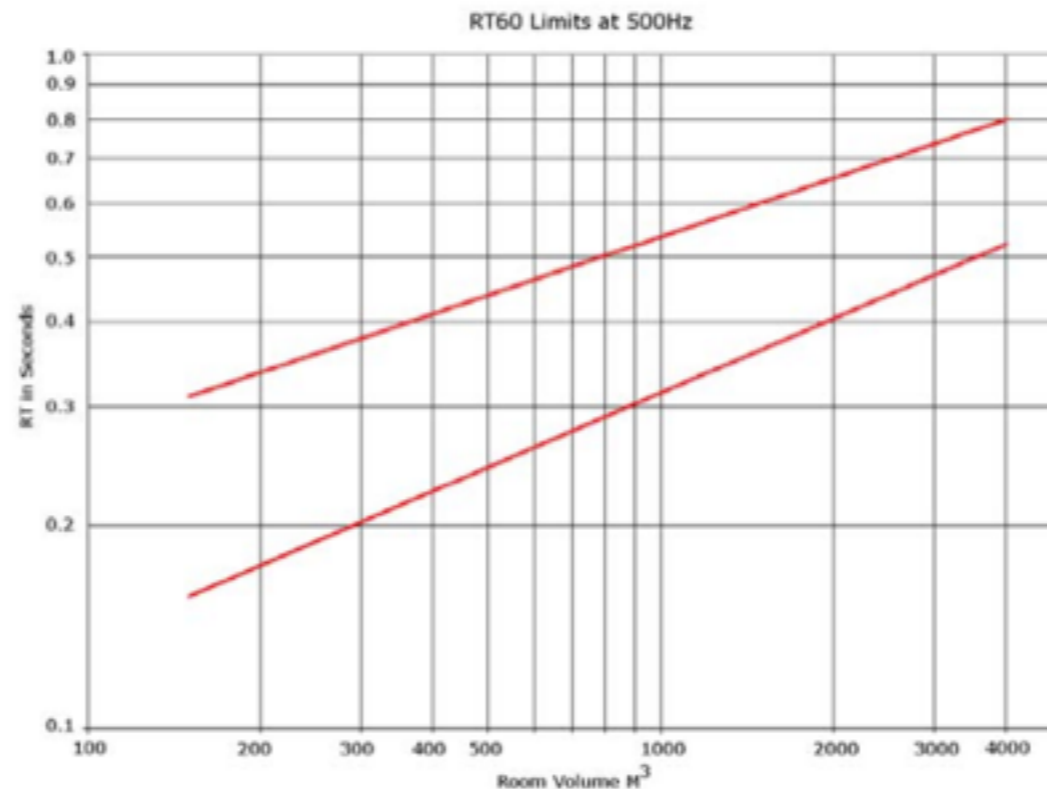

Figure 1 Reverberation Time
- 4.5. The acoustics of the mixing room must conform to the acoustic characteristics shown below in Figure 1. Ambient noise levels must not exceed NC-25 as measured according to ISO 9568 *Background acoustic noise levels in theatres, review rooms and dubbing rooms*.